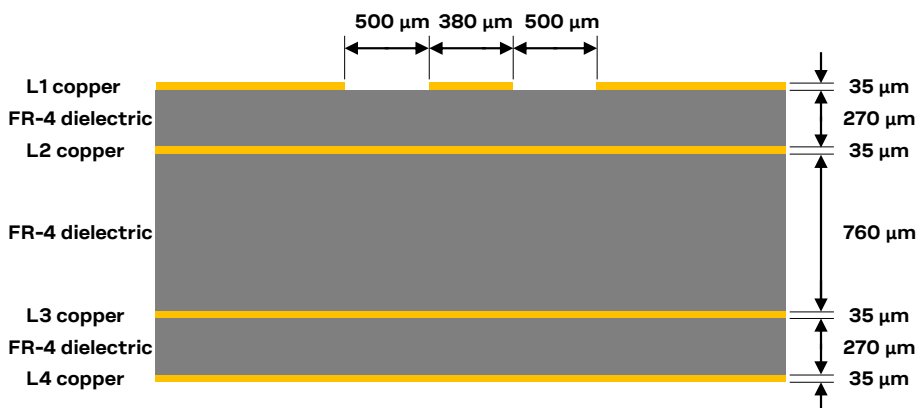
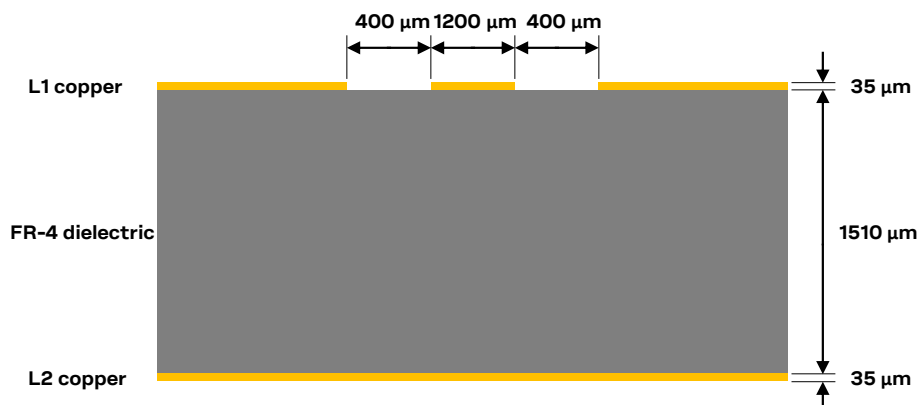

Figure 38: Example of $50\ \Omega$ coplanar waveguide transmission line design for the described 4-layer board layout
Figure 39: Example of $50\ \Omega$ coplanar waveguide transmission line design for the described 2-layer board layout
Figure 38 and Figure 39 provide two examples of suitable $50\ \Omega$ coplanar waveguide designs. The first transmission line can be implemented for a 4-layer PCB stack-up herein described, the second transmission line can be implemented for a 2-layer PCB stack-up herein described.
- the thickness of the transmission line itself (e.g. $35\ \mu\text{m}$ in the example of Figure 38 and Figure 39)
- the thickness of the dielectric material between the top layer (where the transmission line is routed) and the inner closer layer implementing the ground plane (e.g. $270\ \mu\text{m}$ in Figure 38, $1510\ \mu\text{m}$ in Figure 39)
- the dielectric constant of the dielectric material (e.g. dielectric constant of the FR-4 dielectric material in Figure 38 and Figure 39)
- the gap from the transmission line to the adjacent ground plane on the same layer of the transmission line (e.g. $500\ \mu\text{m}$ in Figure 38, $400\ \mu\text{m}$ in Figure 39)